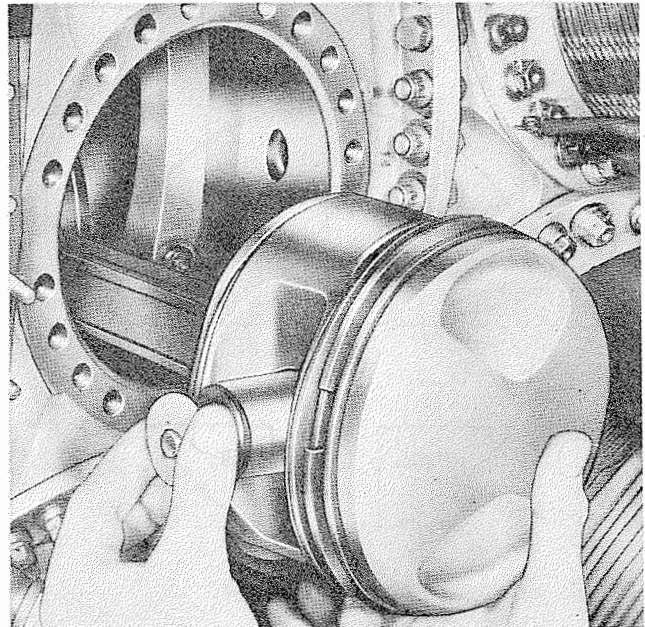

Figure 7-73. Installing Piston Pin
e. Remove the protector from the articulated rod or guide from the cylinder mounting pad. Locate the piston on the connecting rod. Install the piston pin plug in the necked end of the piston pin. Slide the unplugged end of the pin through the piston and connecting rod, and bottom the pin against the boss within the piston. See figure 7-73. There is no positive retention of the pin until the cylinder is installed. The piston pin